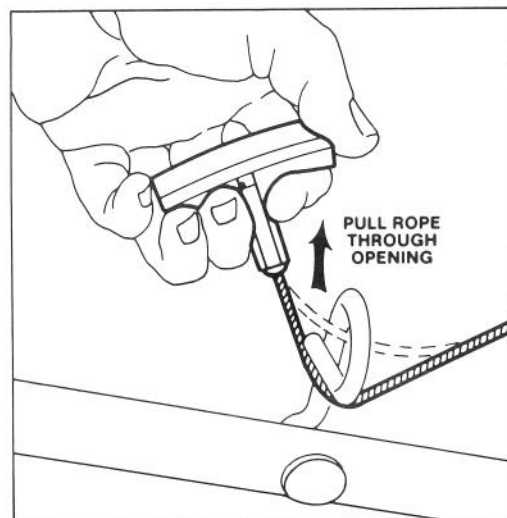
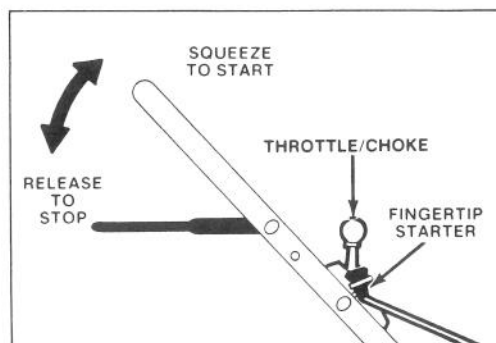

Figure 3
Figure 7
3. STARTER ROPE (Fig. 3) — Pull starter rope through opening in rope guide. By squeezing control bar (Fig. 7) against handle, blade brake will release and allow rope to be pulled easily up to rope guide.
1. **CONTROLS** (Fig. 7) — Throttle, blade control bar and fingertip starter are on upper handle.
2. **STARTING** (Fig. 7) — Push wire onto spark plug. Move throttle control to **CHOKE**. Cover hole in center of primer with thumb and push once. Hold control bar against handle. Pull fingertip starter and regulate throttle as required when engine starts.
3. **STOPPING** (Fig. 7) — Release control bar to stop engine and blade. Pull wire off spark plug if mower is unattended or not used.